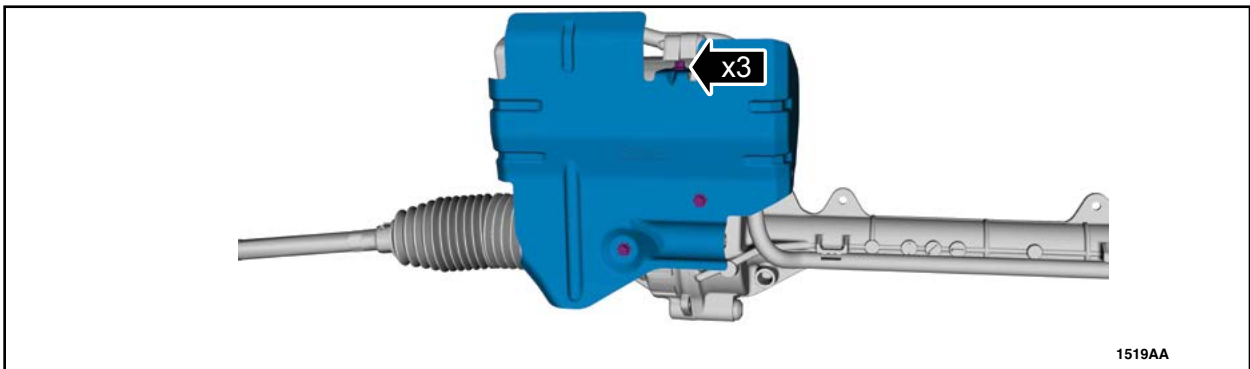

FIGURE 4
3. ALL VEHICLES EXCEPT 3.7L AWD. If equipped, remove the steering gear motor heat shield. See Figure 4.
1. All VEHICLES EXCEPT 3.7L AWD. If equipped, install the steering gear motor heat shield. See Figure 4.